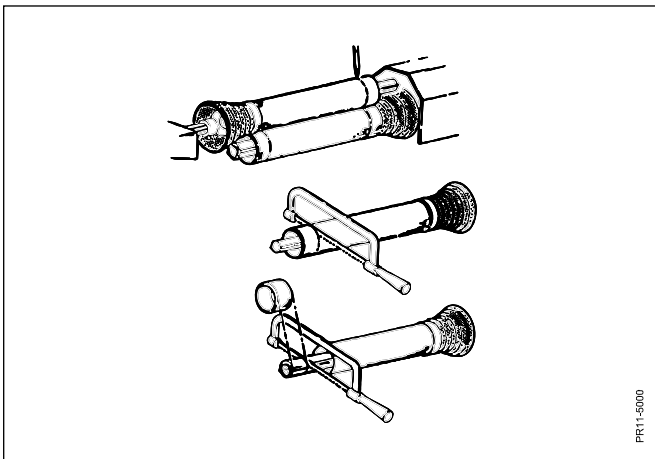

Fig. 2-9
**Fig. 2-9** Fasten the PTO drive shaft half parts to PTO and PIC, respectively, when these are at the same horizontal level and opposite each other (the shortest distance on this machine). Hold the shaft ends parallel to each other and mark the 30 mm (minimum).